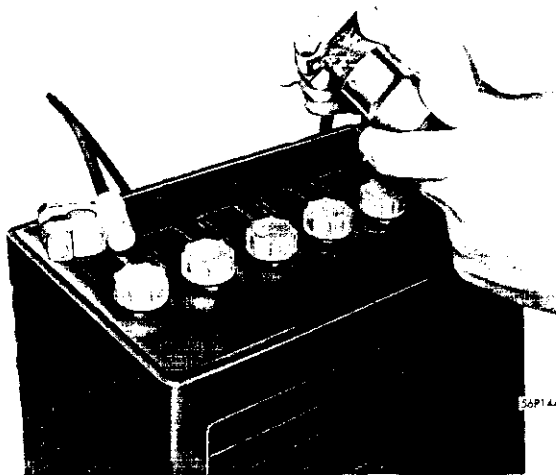

Fig. 1—Cleaning the Inside of the Cable Clamp
- (4) Inspect the cables. Replace damaged or frayed cables.
- (5) Inspect the terminal posts to see that they are not deformed nor broken. Clean the tapered battery terminals and the inside surfaces of the clamp terminals with the terminal cleaning tool, as shown in Figures 1 and 2.
- (6) Examine the battery for cracks in the case, and raised cells. Inspect sealing compound for leaks. Reseal as necessary.
- (7) Tighten the battery hold-down screw nuts to 3 foot-pounds torque.
- (8) Observe the polarity of the terminals of battery to be sure the battery is not reversed and connect the cable clamps to the battery posts and tighten securely. Coat all connections with light mineral grease or petrolatum.
- (9) If the electrolyte level is low, fill to recommended level with mineral-free water.